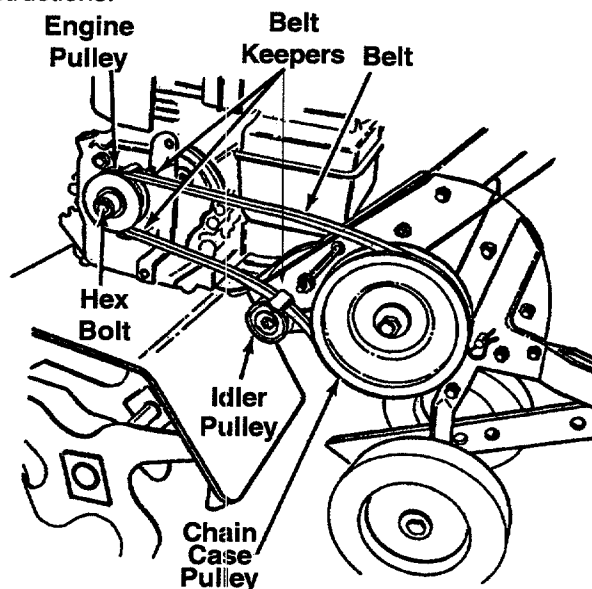

Figure 18
(Refer to Figure 18)
5. Hold the engine pulley and remove the hex bolt, lock washer and flat washer, which secure the engine pulley. See Figure 18. Slide the pulley half out from between the belt keepers. Remove the belt.
NOTE: Upon reassembly, make certain the belt is routed in between the belt keepers at the engine pulley, and idler pulley as shown in Figure 18. Be certain to adjust the clutch control as instructed in the final clutch adjustment section of assembly instructions.